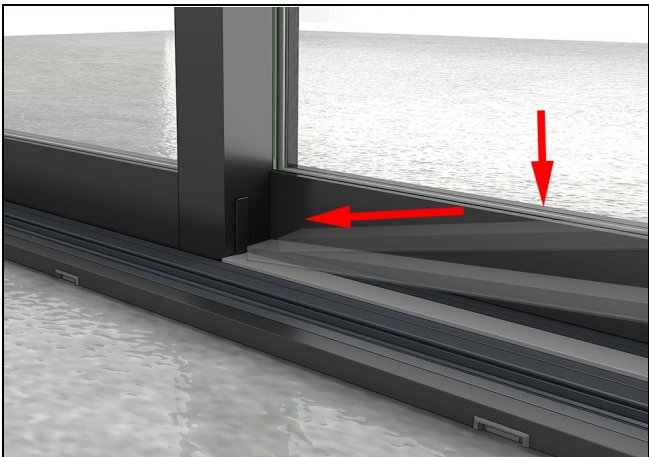
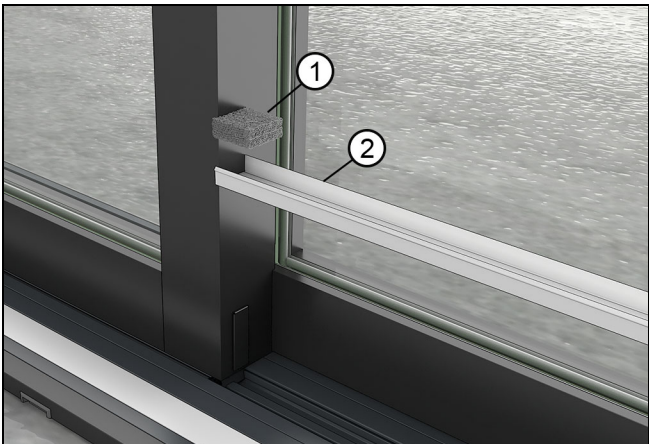
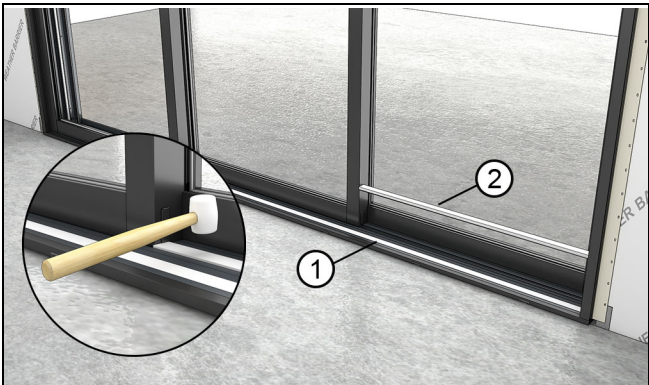

Figure 175
Figure 176
Figure 177
2. Start with the panels closed and locked. The sill covers fit between the stationary panel or secondary panels on the exterior and the jambs. Seat the cover with a rubber mallet. The cover will fit slightly under the stationary panel. See Figure 175, Figure 176 and Figure 177.